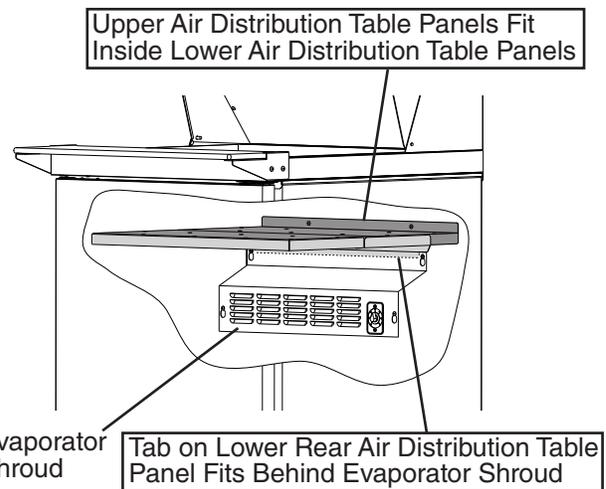

Fig. 20
- 8) Replace the air distribution table panels in their correct positions. See Fig. 20.